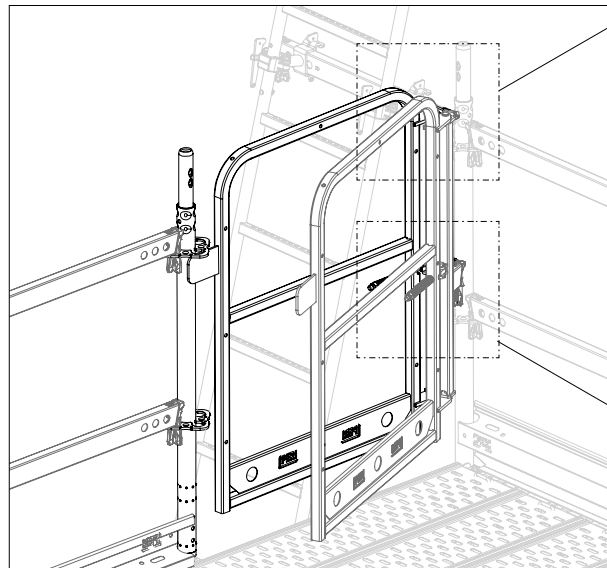
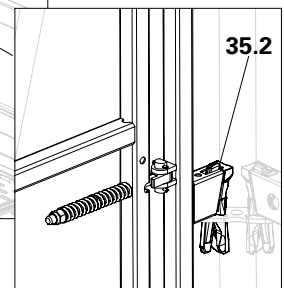

Fig. A5.12a
Fig. A5.12c
1. Install the safety entry gate with wedge (35.2) and suspension bracket (35.3) on the rosettes of the standard. (Fig. A5.12a – Fig. A5.12c)